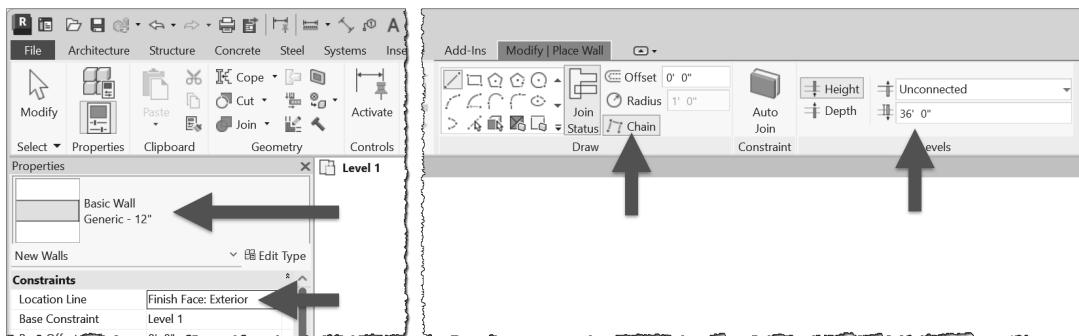

FIGURE 3-2.1 Ribbon, Properties Palette, and Type Selector: Wall tool active
- Select the **Wall** tool from the *Ribbon* and then make the following changes to the wall options (Figure 3-2.1):
2. Make the following changes to the wall options on the *Ribbon*, *Properties*, and *Type Selector* (Figure 3-2.1):